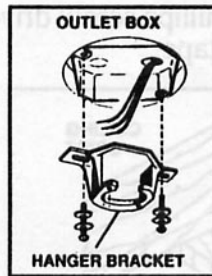

FIG. 5
**Step 1.** Secure the hanger bracket to the ceiling outlet box using screws provided with the outlet box and the lock washers and flat washers included with the fan. (Fig. 5).